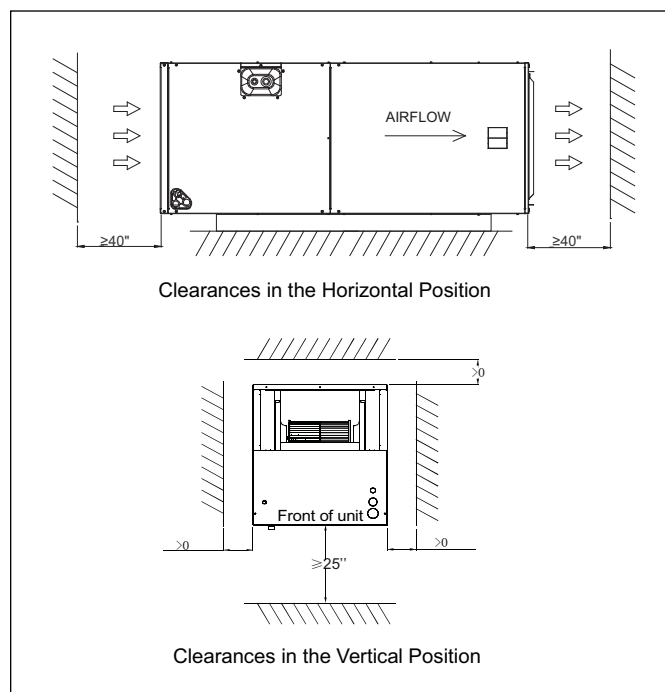

Figure 2 Required Clearances
- The installed unit must have the required clearances as shown in Figure 2. Failure to follow these instructions may result in equipment damage and/or premature equipment failure.